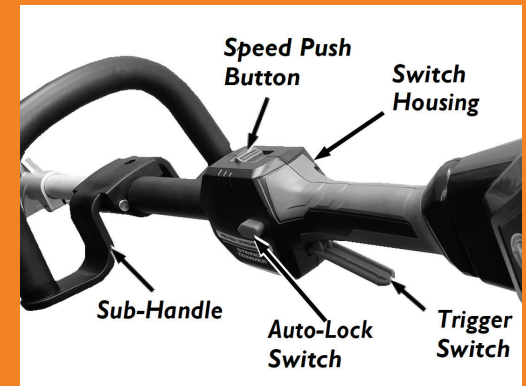

Figure 7
1. Hold the Sub Handle with one hand and the Switch Housing Handle with the other hand. With the hand that is on the Switch Housing Handle press the Auto-Lock button with your thumb and squeeze the Trigger Switch with your fingers (**Figure 7**). Once the motor on the trimmer starts, you can remove your thumb from the Auto-Lock Button. If the trimmer does not start, check the battery connection and power status.